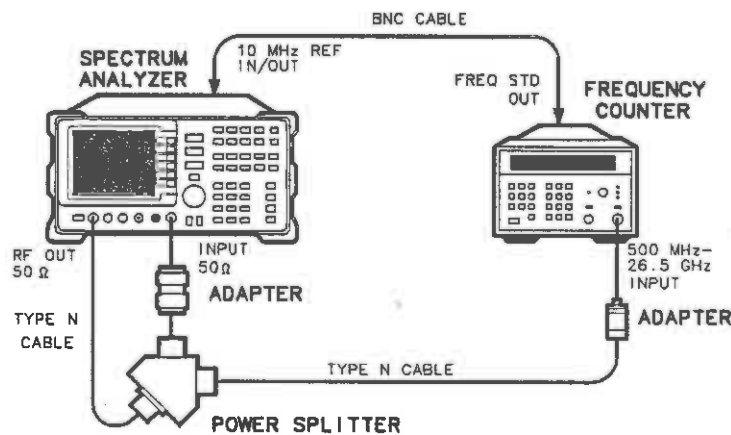

Figure 3-34. Frequency Tracking Range Test Setup
1. Connect the equipment as shown in Figure 3-34. The frequency counter provides the frequency reference for the spectrum analyzer.